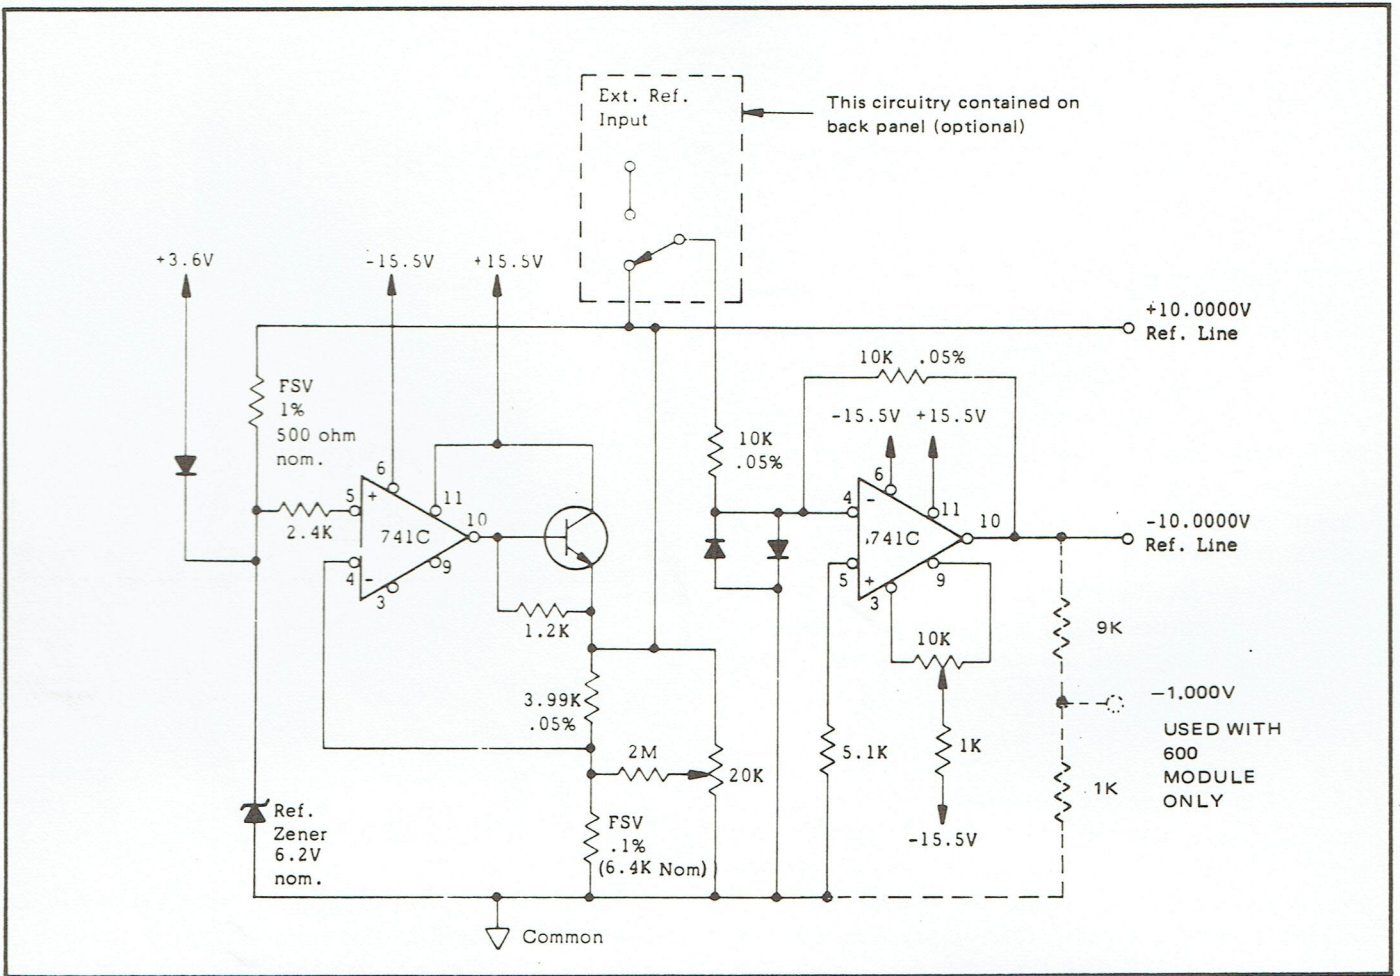

Figure 4.1 - Reference Supplies
4.6 The reference supplies, shown in figure 4.1, are built around two types of 301A differential amplifier IC's. The primary reference supply is the +10V volt supply. The negative supply inverts the +10V supply to -10V using an operational amplifier.